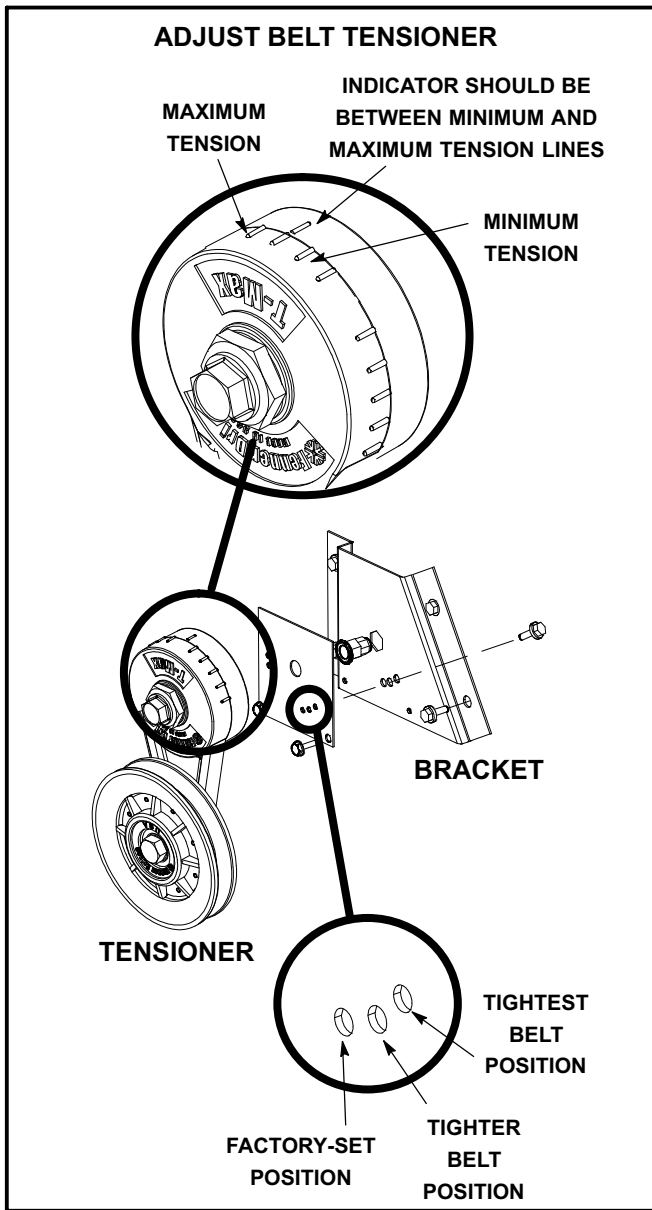

FIGURE 21
- 2- Remove bracket from blower housing. See figure 21.